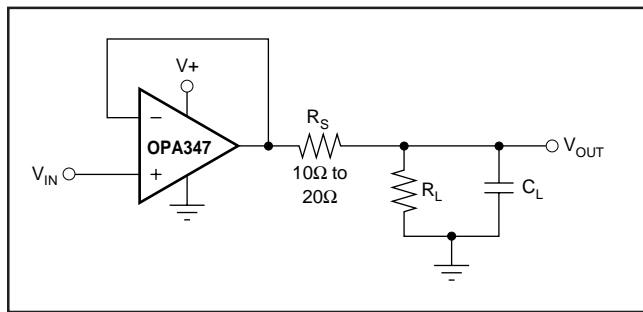

FIGURE 6. Series Resistor in Unity-Gain Buffer Configuration Improves Capacitive Load Drive.
The OPA347 in a unity-gain configuration can directly drive up to 250pF pure capacitive load. Increasing the gain enhances the amplifier's ability to drive greater capacitive loads (see the characteristic curve Small-Signal Overshoot vs Capacitive Load). In unity-gain configurations, capacitive load drive can be improved by inserting a small (10 $\Omega$  to 20 $\Omega$ ) resistor, RS, in series with the output, as shown in Figure 6. This significantly reduces ringing while maintaining Direct Current (DC) performance for purely capacitive loads. However, if there is a resistive load in parallel with the capacitive load, a voltage divider is created, introducing a DC error at the output and slightly reducing the output swing. The error introduced is proportional to the ratio RS/RL, and is generally negligible.